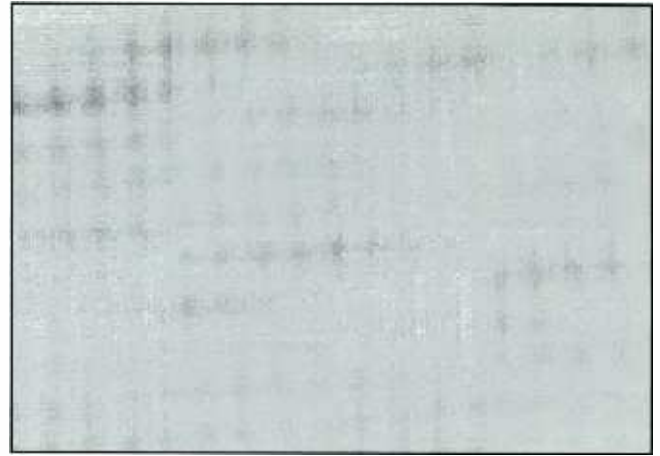

Figure 1-3. A synthesizer.
- **Synthesizer** (Figure 1-3): A keyboard instrument that creates sounds electronically with oscillators (tone generators). Synthesizers produce various
- **Sample-playing keyboard:** A keyboard instrument that plays pre-recorded notes of real instruments (Figure 1-3). Each note, called a *sample*, is digitally recorded in computer memory. A sample might be a flute note, a bass pluck, a drum hit, or a person yelling.